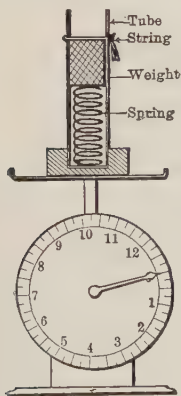

FIGURE 514.
**EXPERIMENT 132.**—Mount a pipe vertically in a wood base and insert in the pipe a coiled spring which fits easily in it (Figure 514). Compress the spring by forcing a weight down into the tube against the spring. Pass a cord through holes above the weight and tie the string so that the weight is made to hold the spring compressed. Place the apparatus upon a diet scale or a household scale (Figure 213) and release the weight and spring by burning the cord. *What forces act when the cord is burned? What force is indicated by the scale? What name is applied to this force by users of firearms?*